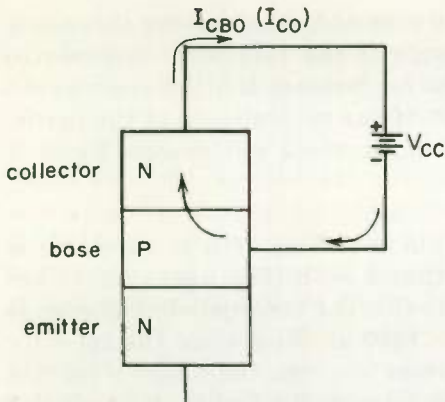
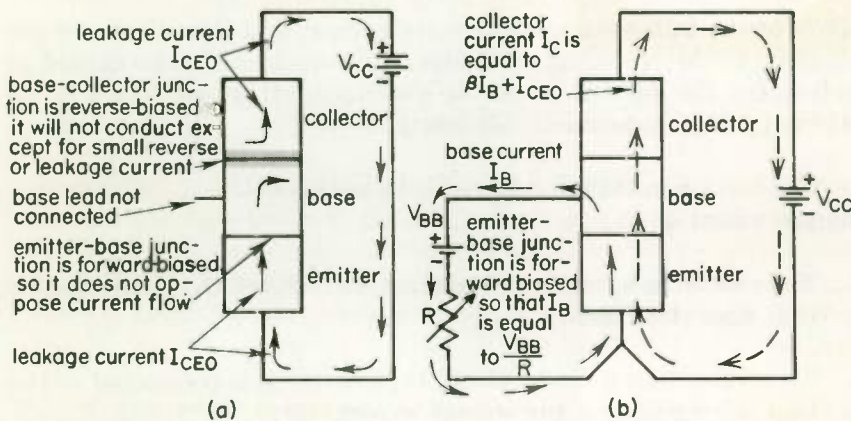

Fig. 1 Measuring the collector-base leakage current.
Fig. 2 Current flow in NPN transistors (a) when base is open and (b) when base current flows.
- 1 LEAKAGE CURRENT AND CURRENT GAIN... An ordinary transistor consists of two diodes. The collector and base, the one composed of N-type semiconductor material and the other of P-type material, form one junction, as can be seen in Fig. 1. The base and emitter, which also consist of opposite type materials, form the other diode.
In Fig. 1 the collector-base diode is reverse-biased by battery V_{cc} . As a result a small reverse current will flow, as in an ordinary semiconductor diode. This is called the *collector-base leakage current*, and it is represented by the symbol I_{CBO} , or by I_{CO} . The O in the subscript means that the third lead (the emitter in this case) is open.
Figure 2(a) differs from Fig. 1 in that the battery voltage is now shown connected between collector and emitter, with the base lead now open. The resulting leakage current flow is called I_{CEO} . Since the emitter-base diode is forward-biased, and thus offers little opposition to current flow, a comparison of Fig. 2(a) with Fig. 1 could easily lead one
In Fig. 2(b) a supply voltage V_{BB} is shown connected between base and emitter, causing a base current I_B to flow. Since the emitter-base junction is forward-biased, it offers little resistance to current flow. Hence, the resistor R must be used in series to limit the base current I_B to the desired value.
Suppose that the leakage current I_{CEO} is $5 \mu\text{a}$. What will I_C be in Fig. 2(b), if I_B is $25 \mu\text{a}$? Assume that β is 50. The base current has changed from zero in (a) to $25 \mu\text{a}$ in (b). The corresponding change in collector current is $50 \times 25 \mu\text{a} = 1250 \mu\text{a}$. Now since the collector current was $5 \mu\text{a}$ when the base current was zero, the collector current is now $5 + 1250 = 1255 \mu\text{a}$. The formula for finding the collector current is
While conduction in N-type semiconductor material is primarily by means of free electrons (called the majority carrier), you will remember there are a few holes in N-type material, which accounts for a small current flow. It is the current flow due to these holes that forms the collector-base leakage current I_{CBO} in Fig. 1. If there were no holes in the N-material, the leakage current in Fig. 1 would be zero. The holes in N-material are called the minority carrier, since they carry only a small fraction of the current.